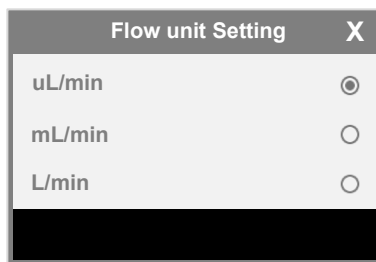

Figure 15 Choose Flow Rate Unit
B. The Unit Settings. When the pump is not running, press it to change the unit. The allowed units are μ L/min, mL/min, and L/min, as shown in Figure 15.